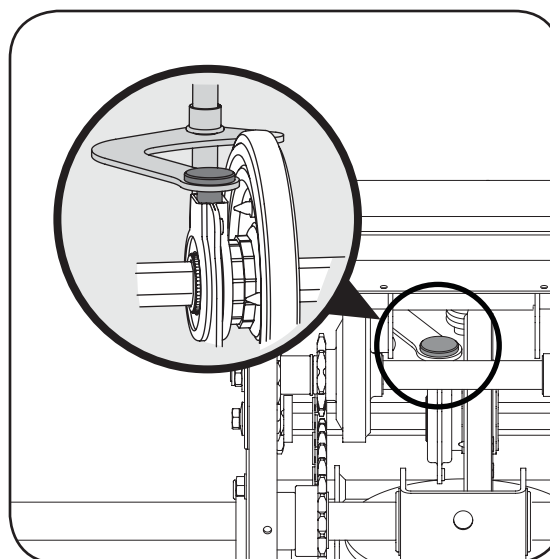

Figure 6-14
- Insert the pin from the shift arm assembly into the friction wheel assembly and hold assembly in position. Refer to Figure 6-14.